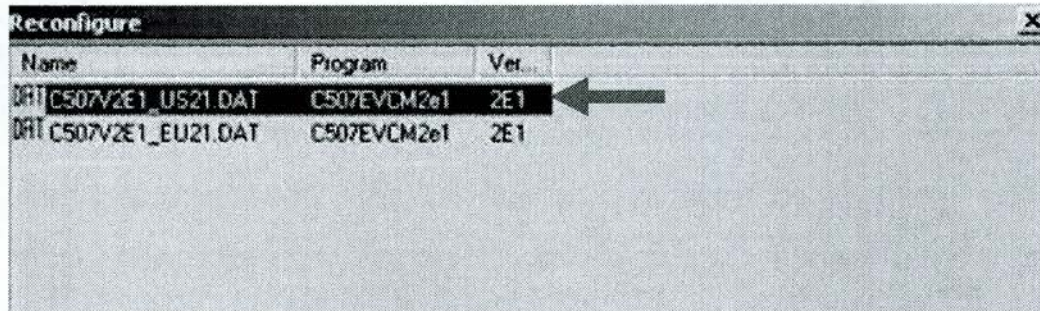

Figure 19
2.22. Select the **US** (arrow, Figure 19) for the country version then confirm your selection with: **GO** and then with **YES**.